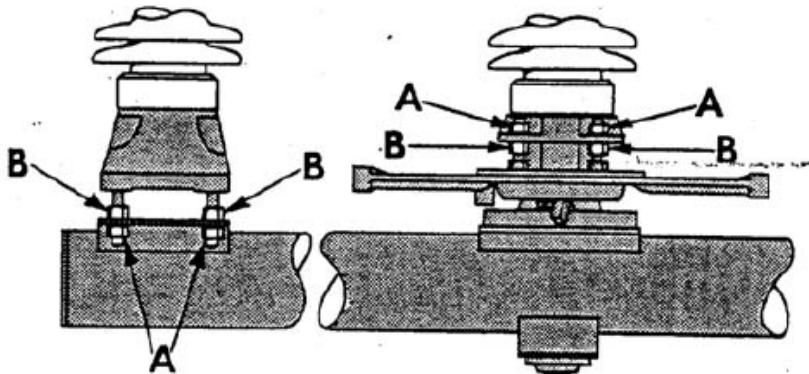

Figure 4: Jack Screw Adjustment
5. Use a plumb bob or level and true up the end insulators. It is important that they be perpendicular to the base in both planes. Use the jack screws to level these stacks. (Due to the overhang of the insulator skirts, it will be necessary to use a piece of scrap metal or wood to extend the plumb bob string beyond the skirts). See Figure 4 for jack screw adjustments procedure.